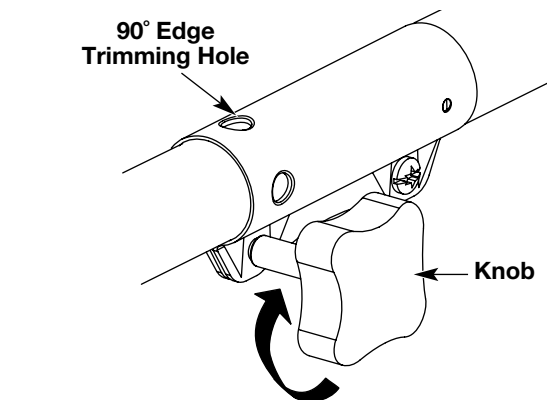

Fig. 11
3. Turn the knob clockwise to tighten (Fig. 11).
For decorative trimming/edging with the **line head cutting attachment**, lock the release button of the cutting attachment into the 90° hole (Fig. 11).